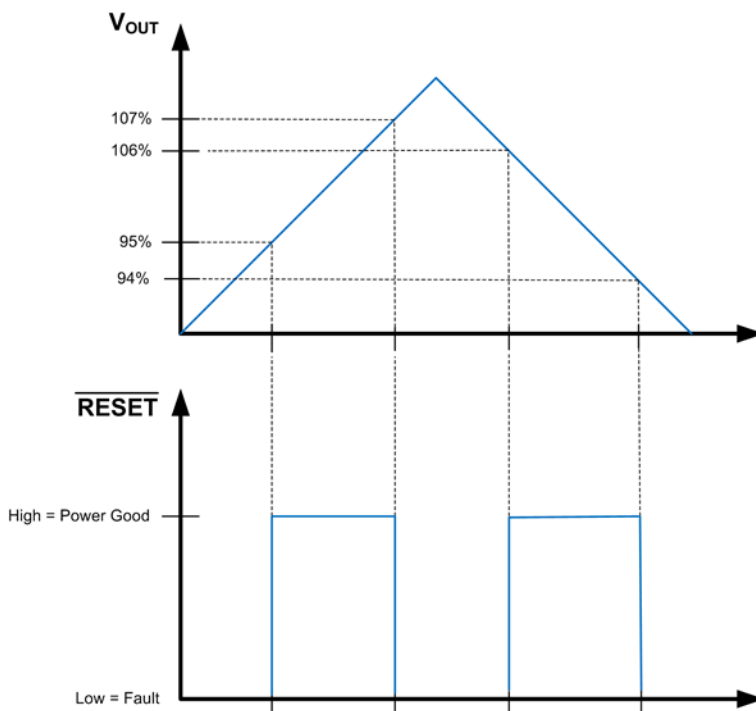
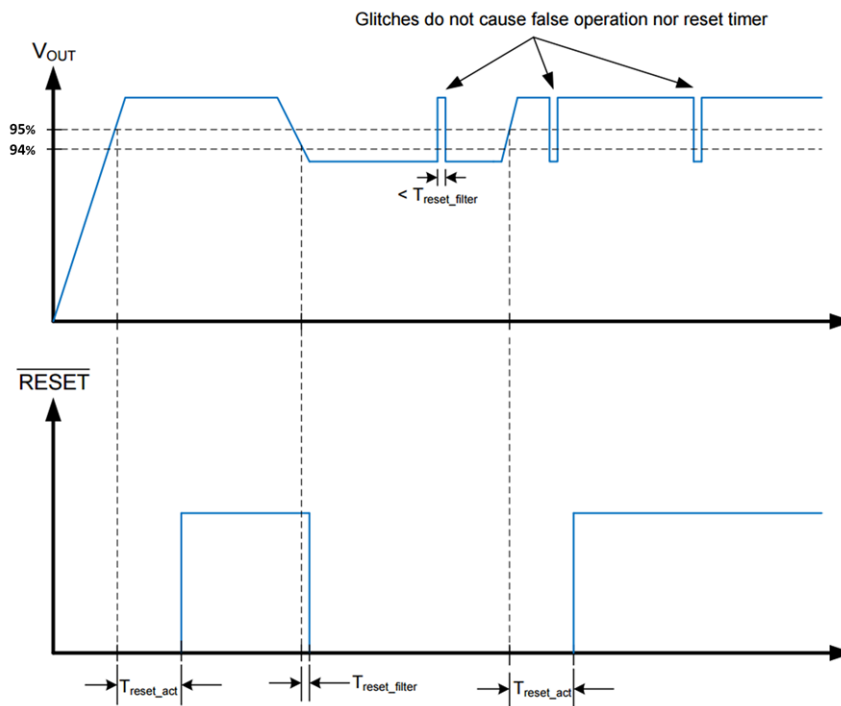
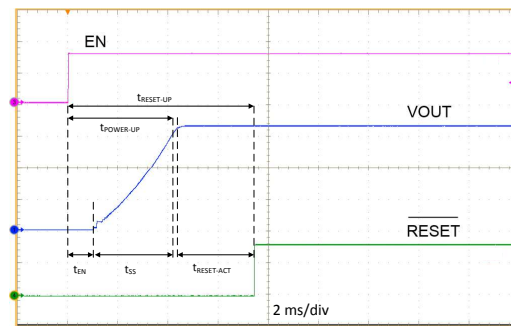

Figure 10. Static $\overline{\text{RESET}}$ Operation
Figure 11. $\overline{\text{RESET}}$ Timing Behavior
Figure 12. Typical Start-Up Waveform
- A delay has been added between the point at which the output voltage is within specified limits and the flag asserts Power Good. A glitch filter prevents false flag operation for short excursions in the output voltage, such as during line and load transients. See Figure 11 and Figure 12 for more detail.
Because the $\overline{\text{RESET}}$ comparator and the regulation loop share the same reference, the thresholds track with the output voltage. When EN is pulled low, the $\overline{\text{RESET}}$ flag output is forced low. When the device is disabled, $\overline{\text{RESET}}$ remains valid as long as the input voltage is ≥ 1.5 V. $\overline{\text{RESET}}$ operation can best be understood by reference to Figure 10 and Figure 11. Output voltage excursions lasting less than $T_{\text{RESET-filter}}$ do not trip $\overline{\text{RESET}}$. Once the output voltage is within the prescribed limits, a delay of $T_{\text{RESET-act}}$ is imposed before $\overline{\text{RESET}}$ goes high. This enables tighter tolerance than is possible with an external supervisor device while also expanding the system allowance for transient response without the need for extremely accurate internal circuitry.
A typical start-up waveform is shown in Figure 12 along with timing definitions. This waveform indicates the sequence and timing between the enable input, output voltage, and $\overline{\text{RESET}}$. From the figure, the user can define several different start-up times depending on what is relevant to the application. Table 2 lists the timing definitions and typical values.